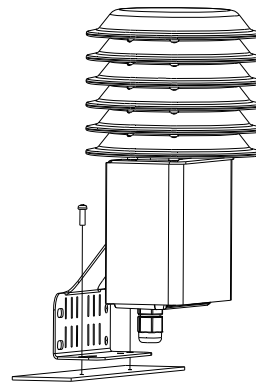

Fig.3
3. If install on a horizontal surface, as shown in Fig. 3;